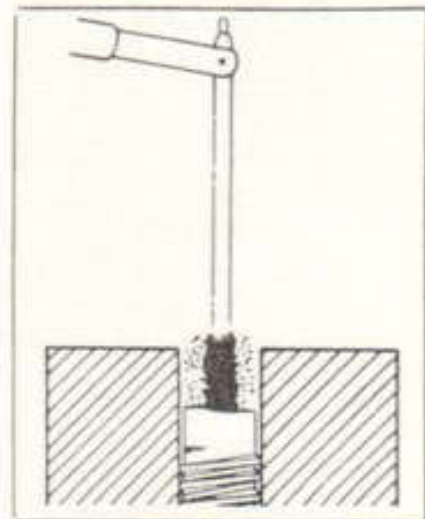

FIGURE 2
2. See Figure 2. Strike arc precisely in center of broken part and begin to build-up. Take your time. Continue re-striking "dead-center" on build-up. Building-up deposit off-center will cause stud to be welded to part. Do not overheat. Allow build-up to cool.